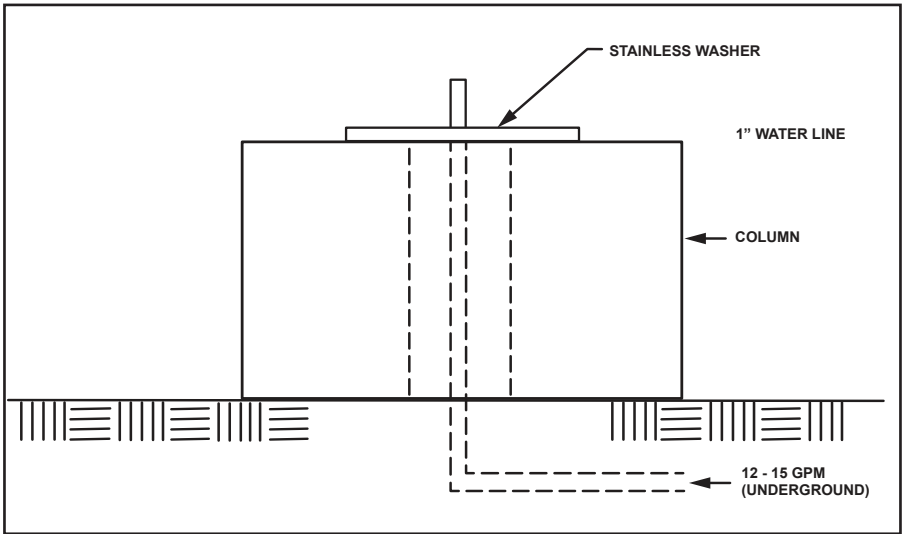

Figure 3. Install Stainless Washer
2. Install the stainless washer supplied by Grand Effects. See Figure 3.